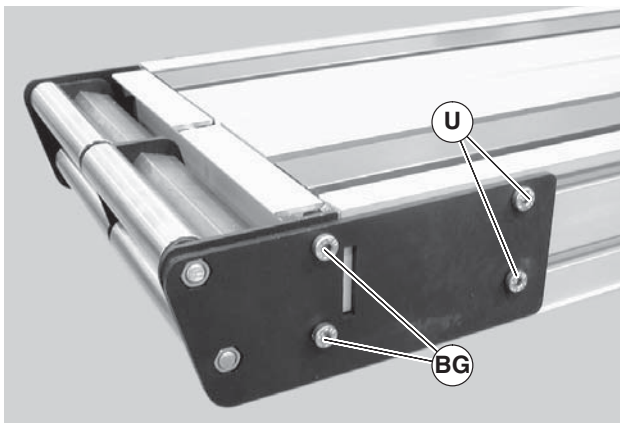

Figure 66
2. On one side of conveyor, loosen the two (2) back fastening screws (Figure 66, item U), and remove the two (2) front fastening screws (BG).